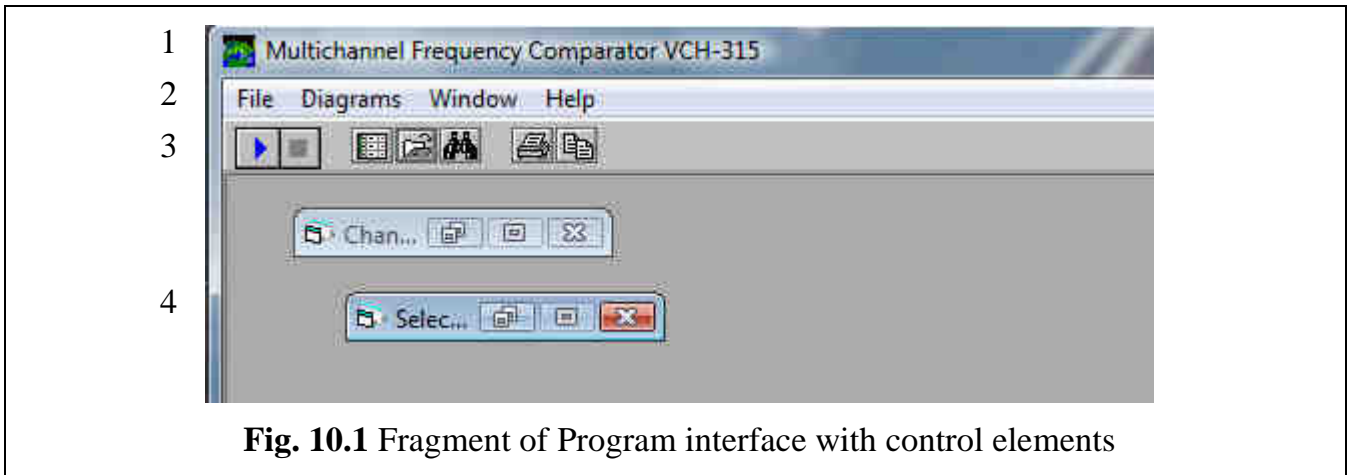
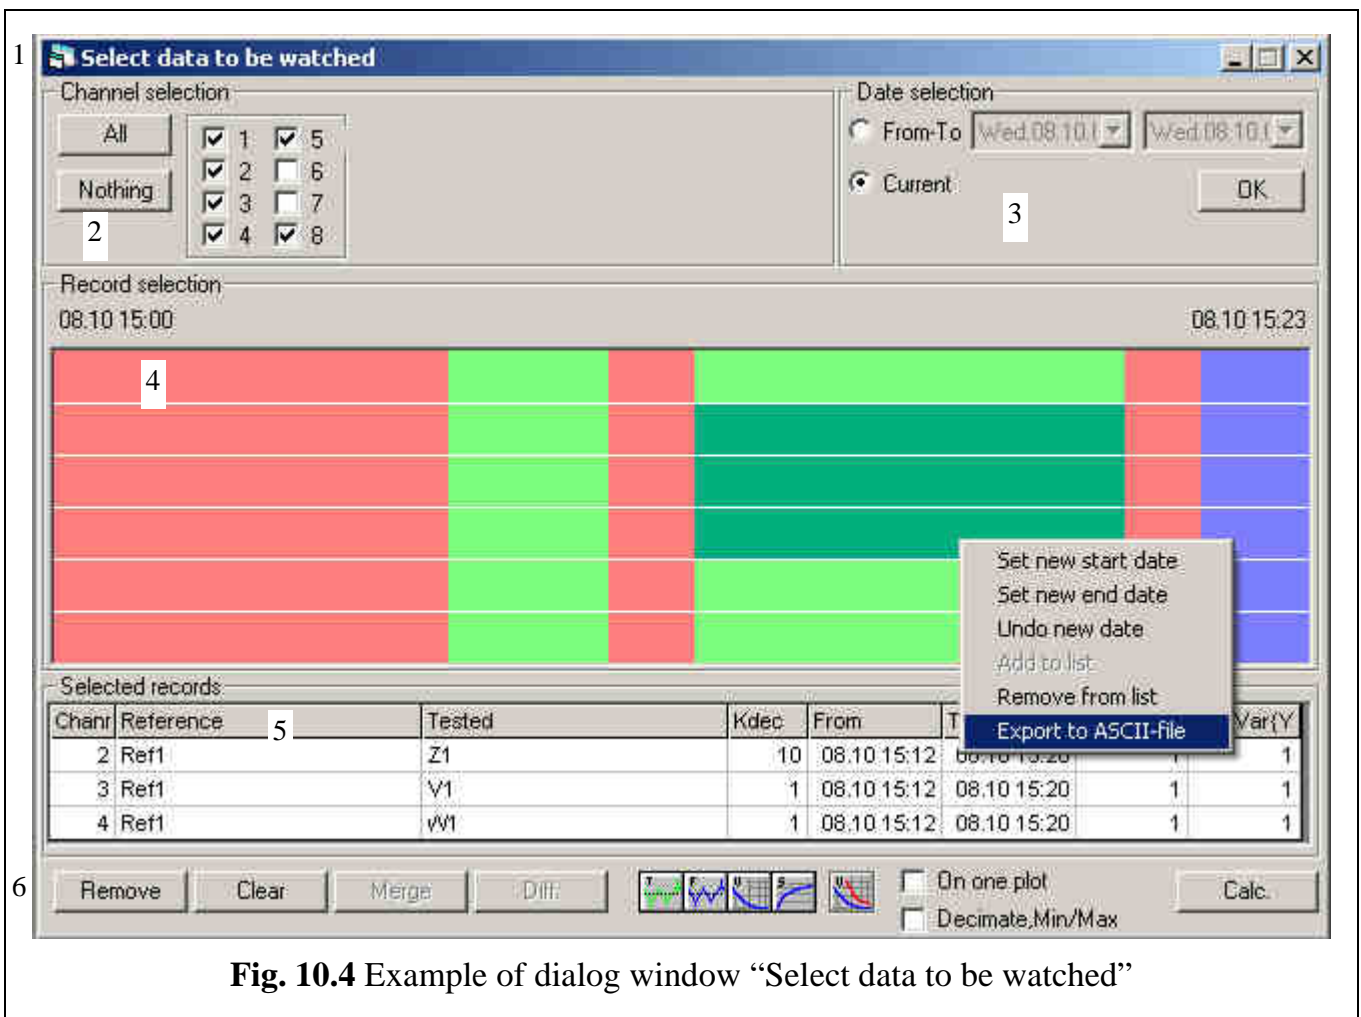

Fig. 10.1 Fragment of Program interface with control elements
Fig. 10.4 Example of dialog window “Select data to be watched”
Program interface has standard Windows application style. Fragment of the main window of Program is shown in Fig. 10.1.
To open window “Select data to be watched” (see Fig. 10.4) you should select item “Open” from menu “File” or to click on button  on the control panel (see Fig. 10.1).
Table of selected records is located in the field "5" on dialog window "Select data to be watched", shown in Fig. 10.4. This table contains three rows for records, which can be selected from the diagram "Records selection" (field 4).
2. Click on the control button, which corresponds to the diagram you need. Control buttons are placed on the field "6" (Fig. 10.4), they are described in the next subsection.